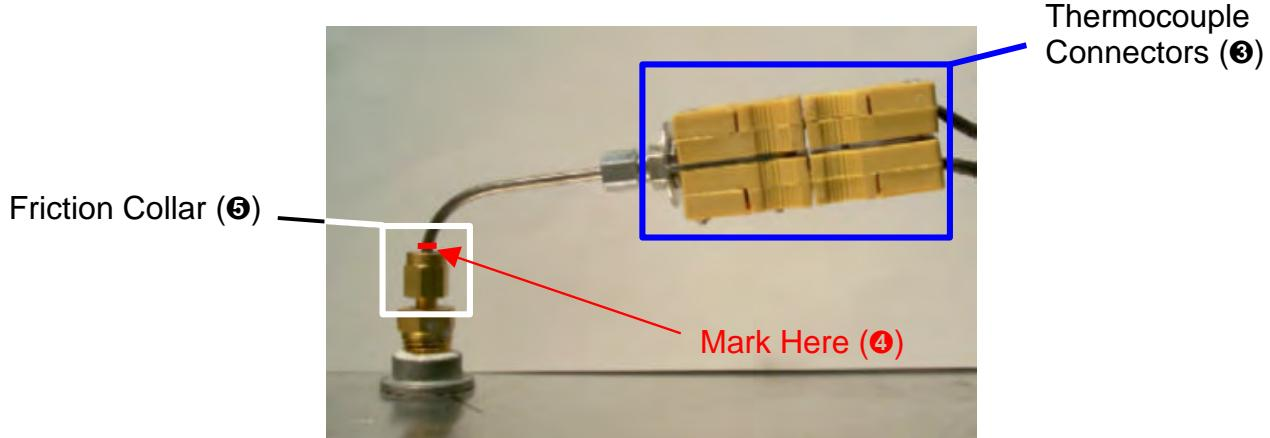

Figure 7-14: Thermocouple Installed (Overtemperature T/C Shown)
- ① Remove power from the RTC Furnace.
- ② Remove the side and top covers of the furnace cabinet as required.
- ③ Disconnect the thermocouple connectors; See Figure 7-14 below.
- ④ Mark the junction between the thermocouple probe and collar.
- ⑤ Unscrew the friction collar just above the surface of the chamber.
- ⑥ Remove the thermocouple probe.